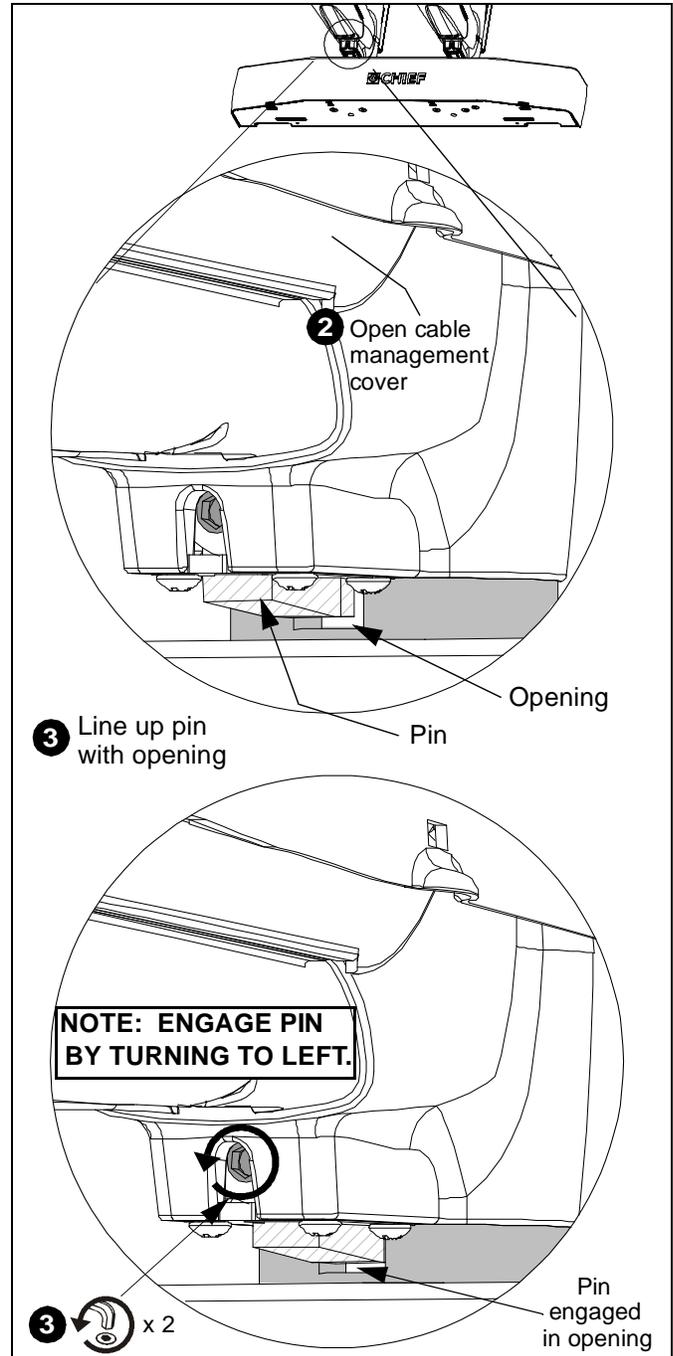

Figure 25
3. Engage PXR arms by lining up pin with opening and using 9" hex head wrench (Y) in opening on bottom of each arm. (See Figure 25)